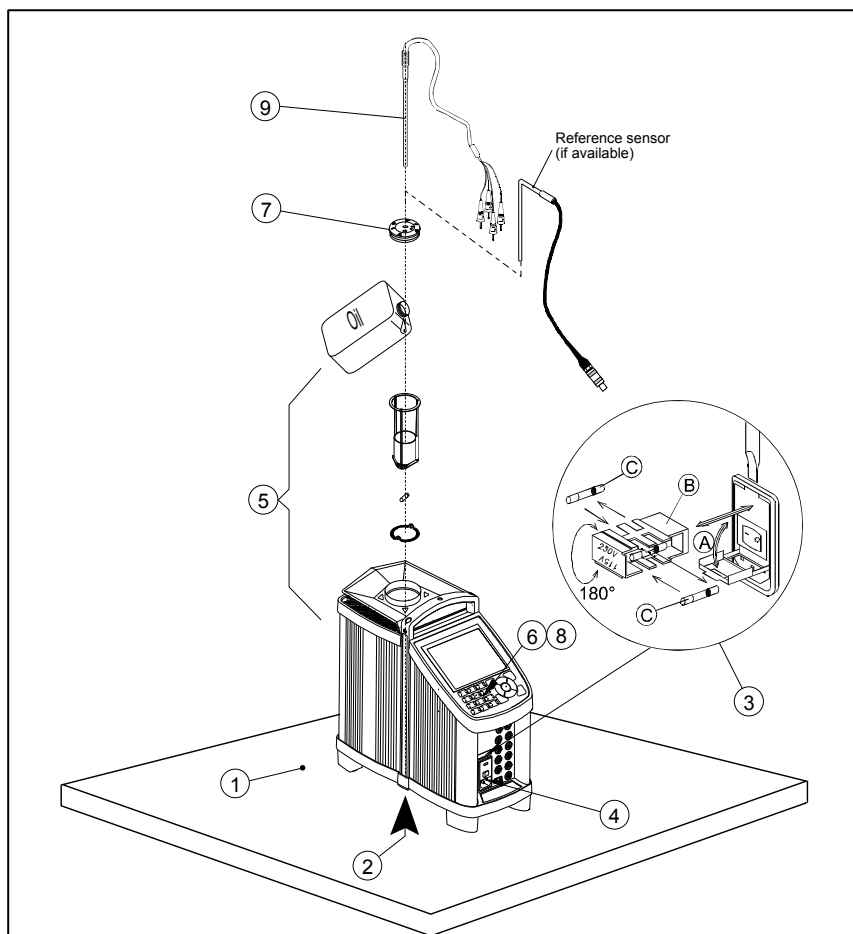

Fig. 4
- ③ Check the voltage of the power control switch (on/off switch (230V/115V)). If the voltage of the power control switch differs from the line voltage, you must adjust the setting of the power control switch as follows (see fig. 4):